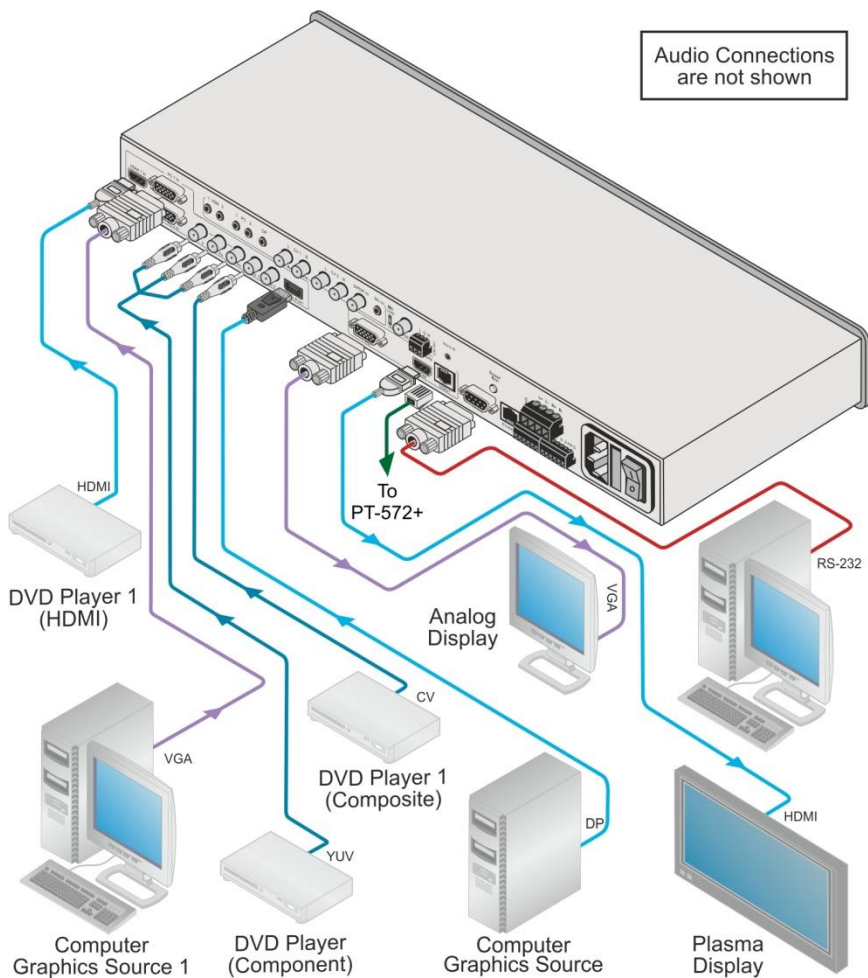

Figure 4: Connecting the VP-770 Presentation Switcher/Scaler
To connect the **VP-770**, as illustrated in the example in Figure 4, do the following:
6. Connect the audio input signals to the AUDIO IN connectors (3.5mm mini jack and RCA connectors), as required (not shown in Figure 4).
10. Connect the SPKR Terminal Block connector to speakers (not shown in Figure 4).
11. Connect the SPKR block connector to a pair of loudspeakers, by connecting the left loudspeaker to the "L+" and the "L-" terminal block connectors, and the right loudspeaker to the "R+" and the "R-" terminal block connectors. **Do not Ground the loudspeakers** (not shown in Figure 4).
13. Connect the power cord (not shown in Figure 4).